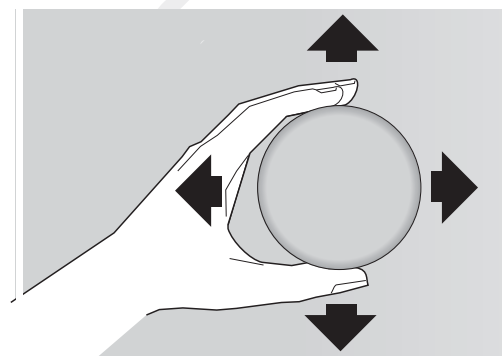

Figure 3: Moving cap gently until seated properly
- Once in place, you may check the fit by gently sliding the burner cap from side to side (Figure 3) to be sure it is centered and firmly seated. When the burner cap lip makes contact inside the center of the burner head you will be able to hear the burner cap click.